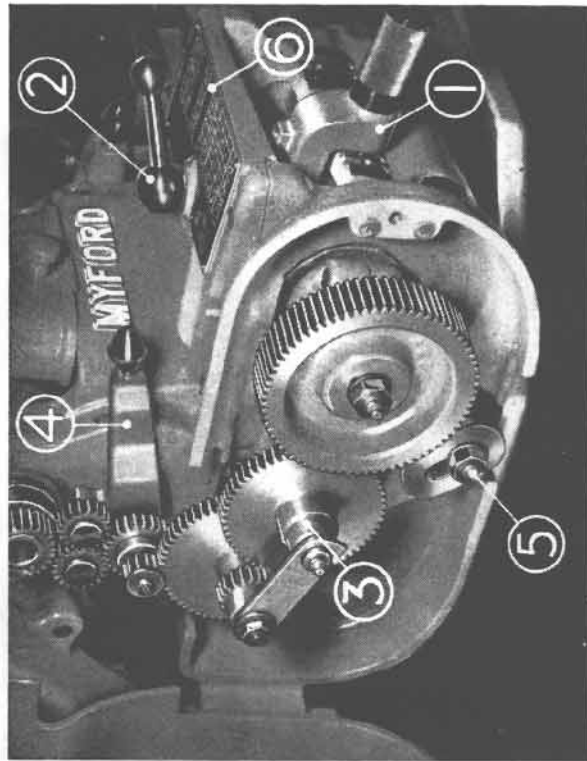

Fig. 7. Quick Change Gear Box Controls.
The Myford gear box is designed for smooth and easy operation. To obtain the various threads and feeds it is only necessary to arrange the levers of the gear box and the reversible cluster gear, as indicated on the Chart (6) Fig. 7.
The **SELECTOR** (1) selects any one of the eight ratios available from the 'cone' of gears on the lower shaft. The indexing position of the lever is always directly below the column on the chart which contains the thread or feed desired. (See Fig. 7).
- (1) Disengage tumbler reverse.
- (2) Set reversible cluster, 3 Fig. 7, in screwcutting position, i.e. with smaller gear (19 teeth) innermost.
- (3) Set lever, 2 Fig. 7, on top of box, in a position giving disengagement of gearing.
- (4) Set selector, 1 Fig. 7, in 8 T.P.I. position.
- (5) Disengage leadscrew nut (clasp nut lever in upper position).
- (A) Gripping on the 8 T.P.I. threaded portion it should be possible to rotate the leadscrew.
- (B) Gripping the 72 tooth wide input gear it should be possible to rotate the input drive gearing and the gears in the box.